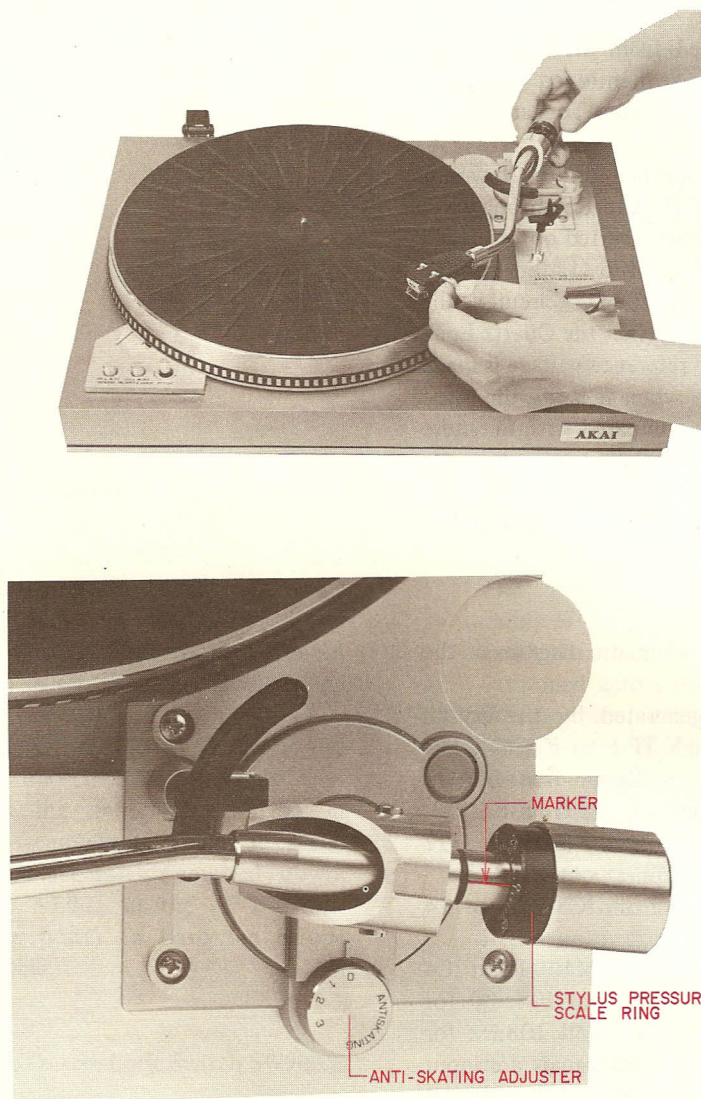

Fig. 10
(Refer to Fig. 10)
- pressure scale ring only to match the "0" mark with the marker on the weight shaft (See Fig. 10).